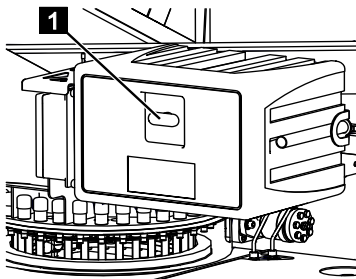

Fig. 215
3. Use the stowage space key to turn the lock (Fig.215/1) anti-clockwise to lock the stowage space.
4. Push the cap onto the lock (Fig.215/1).